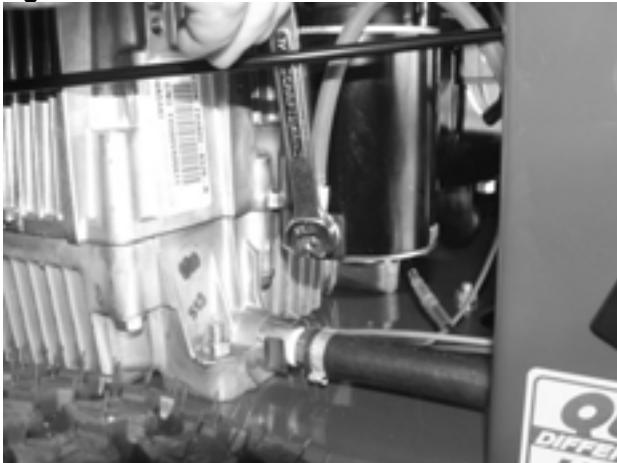

Figure 56
3. Using a 7/16" wrench, remove the starter cable **Figure 56**.